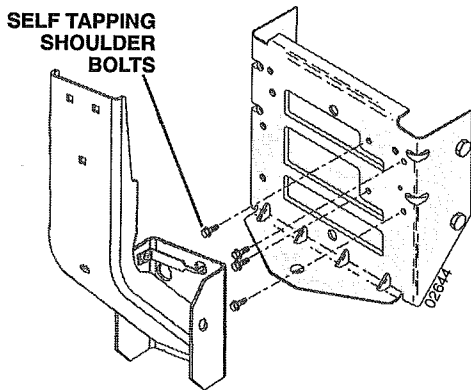

Fig. 1B
NOTE: If your tractor already has four (4) shoulder bolts installed on the rear drawbar, simply hang the mounting bracket, on the bolts. Discard included shoulder bolts and disregard Fig 1B.
SELF TAPPING SHOULDER BOLTS (See Fig. 1B)